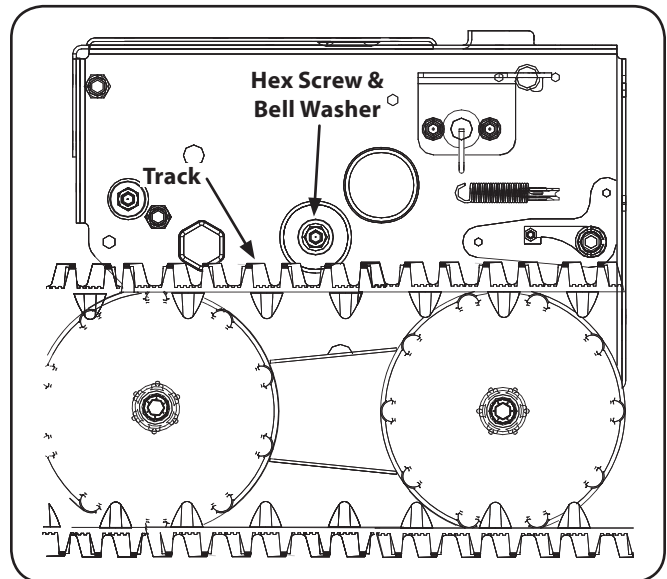

Figure 7-8
4. Using a $\frac{3}{4}$ " wrench to hold the gear shaft, remove the hex bolt and bell washer on the left end of gear shaft. See Fig. 7-8 and 7-9.